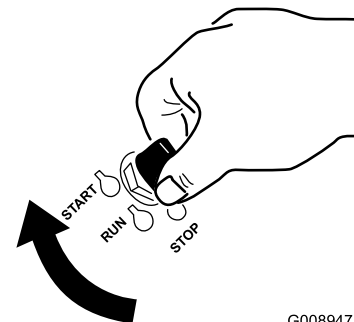

Figure 17
1. Turn the ignition key to the Start position (Figure 17). When the engine starts, release the key.
6. Turn the ignition key to the Start position (Figure 17). When the engines starts, release the key.